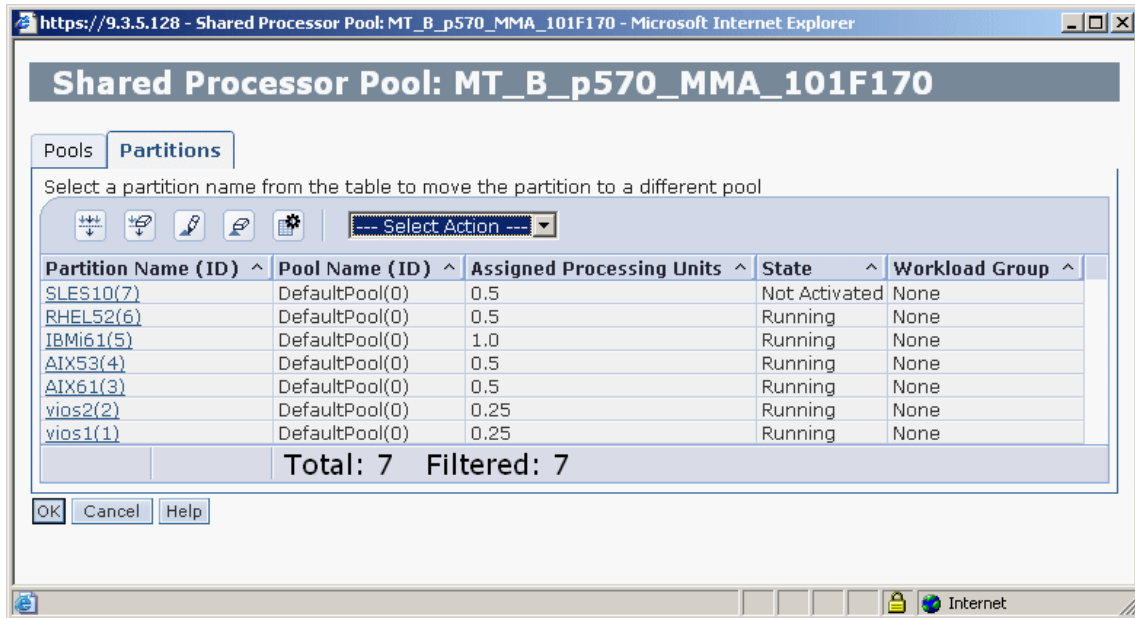

Figure 3-3 Partition assignment to Multiple Shared Processor Pools
1. Click the **Partitions** tab and select the partition name as shown in Figure 3-3.